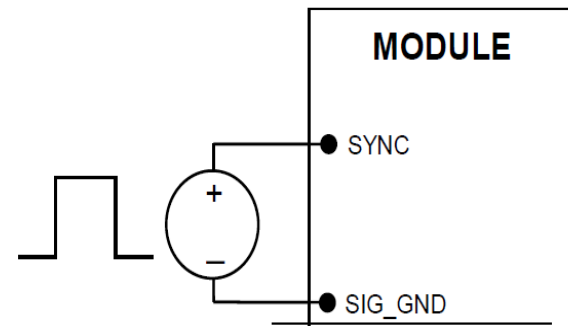

Figure 6. External source connections to synchronize switching frequency of the module
- **SYNC** – Some regulators provide a Sync terminal. The regulator switching frequency can be synchronized to a signal with an external frequency within a specified range. Synchronization can be done by using the external signal applied to the SYNC pin of the module as shown in Fig. 6, with the converter being synchronized by the rising edge of the external signal. The IND072 regulator switches at half the SYNC frequency. Other regulators switch at the applied frequency. If the SYNC pin is not used, the module will free run at the default switching frequency. **If synchronization is not being used, connect the SYNC pin directly to SIG_GND (or GND in some codes, see datasheet)**